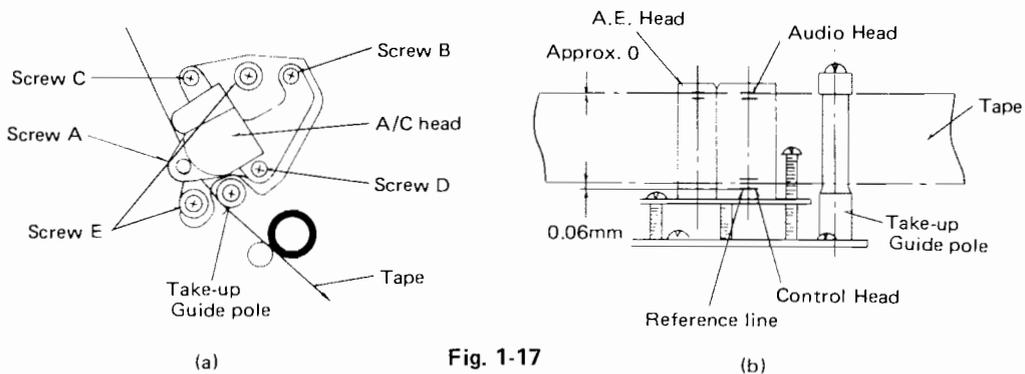

Fig. 1-17
3. If any abnormality is found, slightly adjust the head with Screws A, B and C shown in Fig. 1-17(a).
4. The A/C head should be positioned for the tape as illustrated in Fig. 1-17(b). If the height of the head deviates, adjust it with Screws A, B and C.
After checking with a self recorded tape as shown in Fig. 1-17 change to an alignment tape type MH2.
2. Turning Screws A, B and C slightly, adjust the audio output level for maximum with the relative positions as specified in Fig. 1-17(b).
5. Loosen two screws E of the A/C head base shown in Fig. 1-17(a).